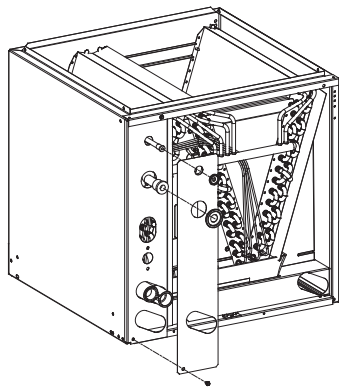

Fig. 10 - Header Plate Installation
8. Slide **new header plate** and **grommets** over tubing and condensate pan connections and secure it to the header panel to cover up oversized and additional holes. This will provide an airtight seal and better installation presentation. See Fig. 10.